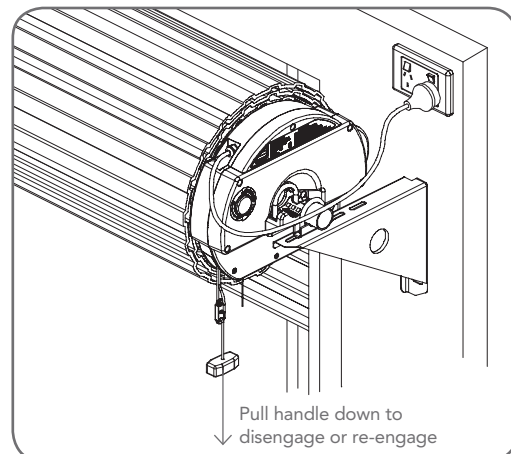

fig 08
1. Switch the opener into manual mode (**Fig. 08**).